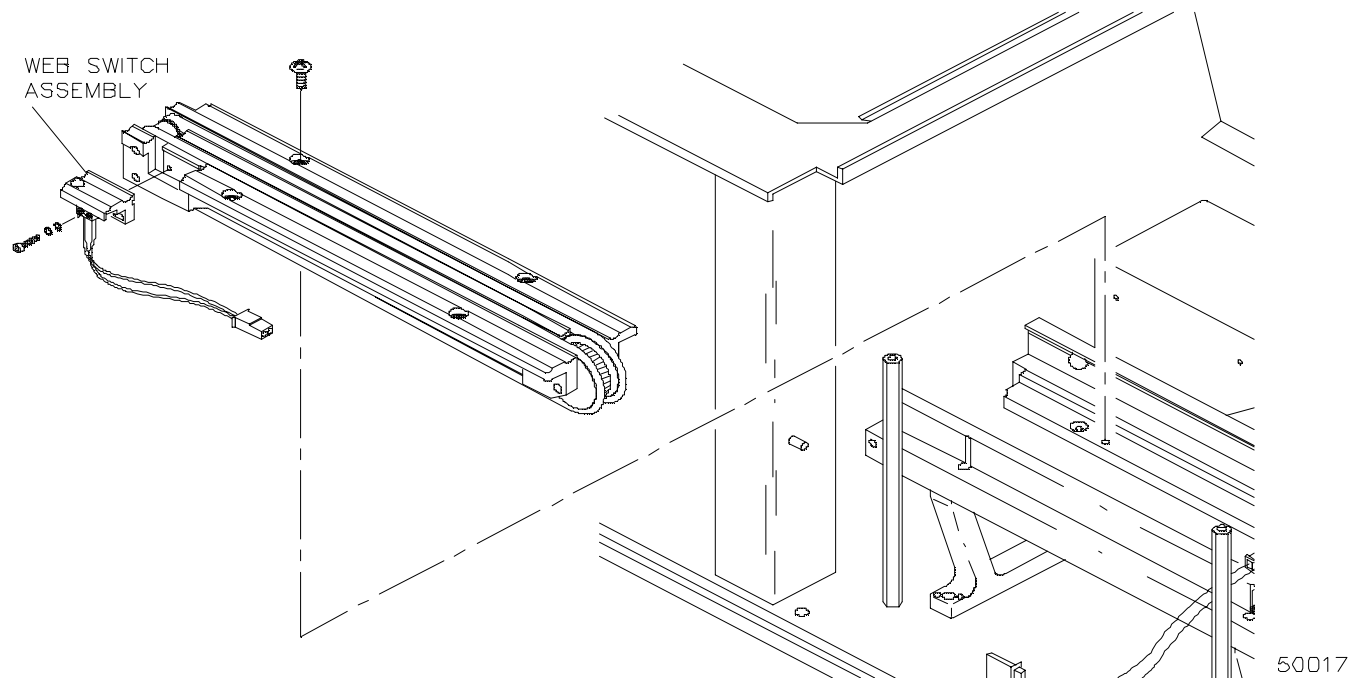

Figure 4-17. Web Switch Assy
2. Disconnect white 2-pin connector (**Figure 4-17**).